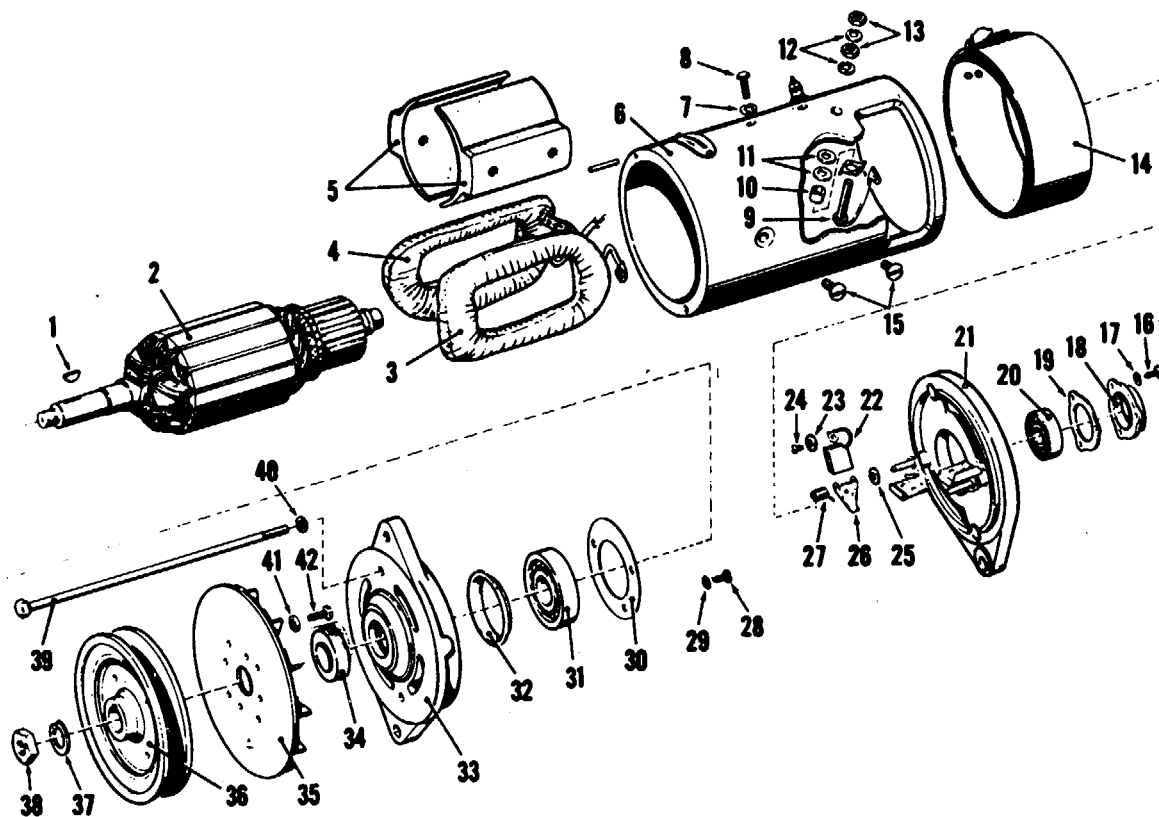

Figure 78. Exploded view of generator.
- c. *Disassembly* (fig. 78). Remove the band cover (14) by snapping back the, catch. Disconnect the leads from the brush holders that are attached to the commutator-end frame (21), by